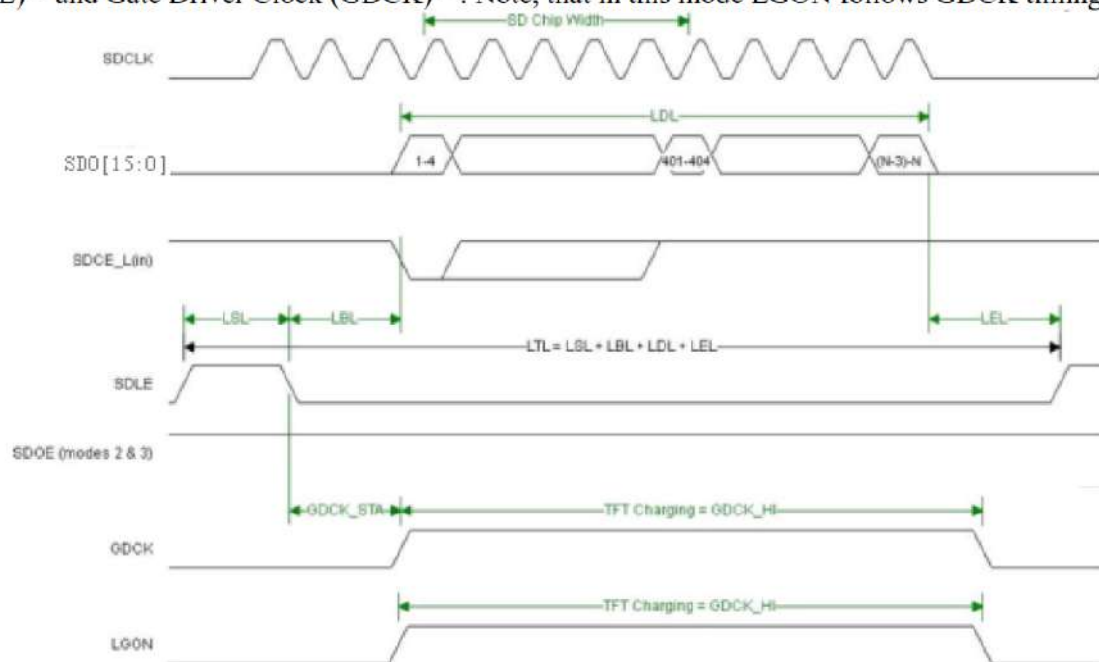
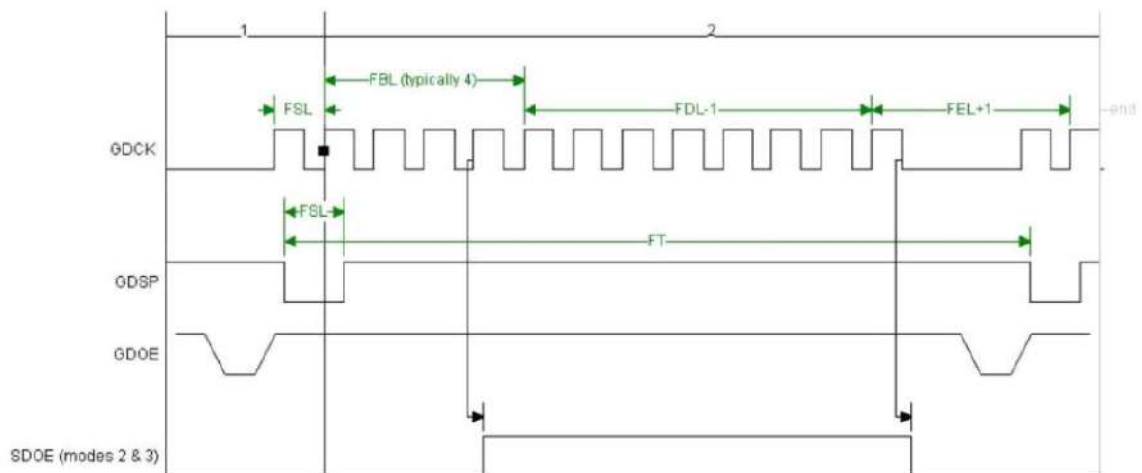

Figure 1 Line Timing in Mode 3
Figure 2 Frame Timing in Mode 3
This timing mode is depicted on Figure 1 and Figure 2 and it refers to timing of Source Driver Output Enable (SDOE)(3) and Gate Driver Clock (GDCK)(3). Note, that in this mode LGON follows GDCK timing.